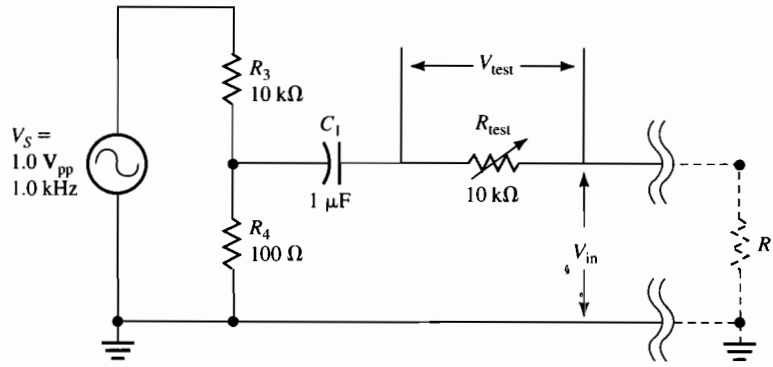

Figure 38–4 Measurement of $R_{in(T)}$
- The measurement of $R_{in(T)}$ must be done indirectly since it represents an ac resistance. The output signal (V_{out}) is monitored and noted. A variable test resistor (R_{test}) is then inserted in series with the source, as shown in Figure 38–4. The resistance of R_{test} is increased until V_{out} drops to one-half the value noted prior to inserting R_{test} . This means the voltage drop across R_{test} is equal to the voltage drop across $R_{in(T)}$; hence, the resistances are equal. R_{test} can then be removed and measured with an ohmmeter. Using this method, measure $R_{in(T)}$ and record the result in Table 38–3.
- Restore the circuit to that of Figure 38–3. With a two-channel oscilloscope, compare the input and output waveforms. What is the phase relationship between V_{in} and V_{out} ?